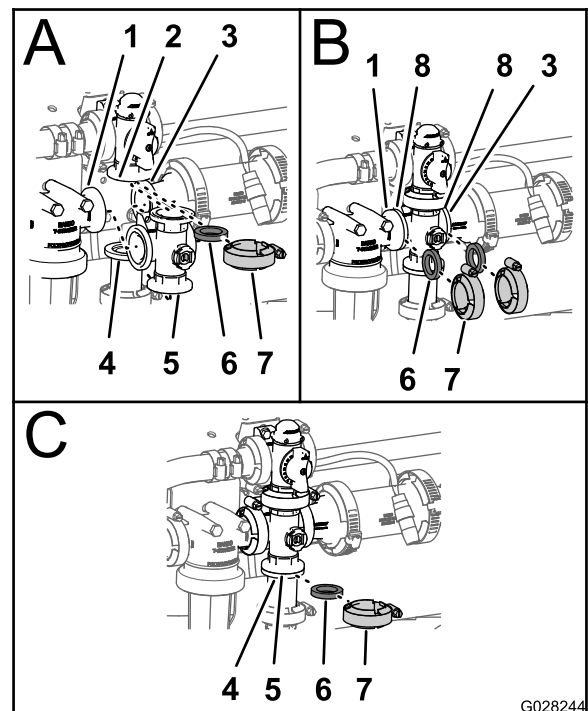

Figure 121
1. Align the flange of the agitation bypass valve, 1 gasket, and the end-cap-fitting flange of the agitation-valve manifold (Figure 121).
2. Assemble the agitation bypass valve, gasket, and agitation-valve manifold with a clamp, and tighten by hand (Figure 121).
3. Align a gasket between the flanges of the pressure-filter head and the agitation-valve manifold (Figure 121).
4. Assemble the pressure-filter head, gasket, and agitation-valve manifold with a clamp, and tighten by hand (Figure 121).
5. Align a gasket between the flanges of the agitation-valve manifold and the reducer coupling (Figure 121).
6. Assemble the agitation-valve manifold, gasket, and reducer coupling with a clamp, and tighten by hand (Figure 121).
7. Align a gasket between the flanges of the agitation-valve manifold and the adapter fitting for the agitation throttle valve (Figure 121).
8. Assemble the agitation-valve manifold, gasket, and adapter fitting with a clamp, and tighten by hand (Figure 121).